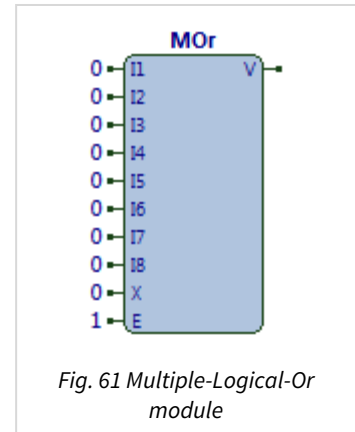

Fig. 61 Multiple-Logical-Or module
The MOr module (Fig. 61) performs the logic operation to determine whether any of its specified inputs are set non-zero. It performs the logical or operation (OR).